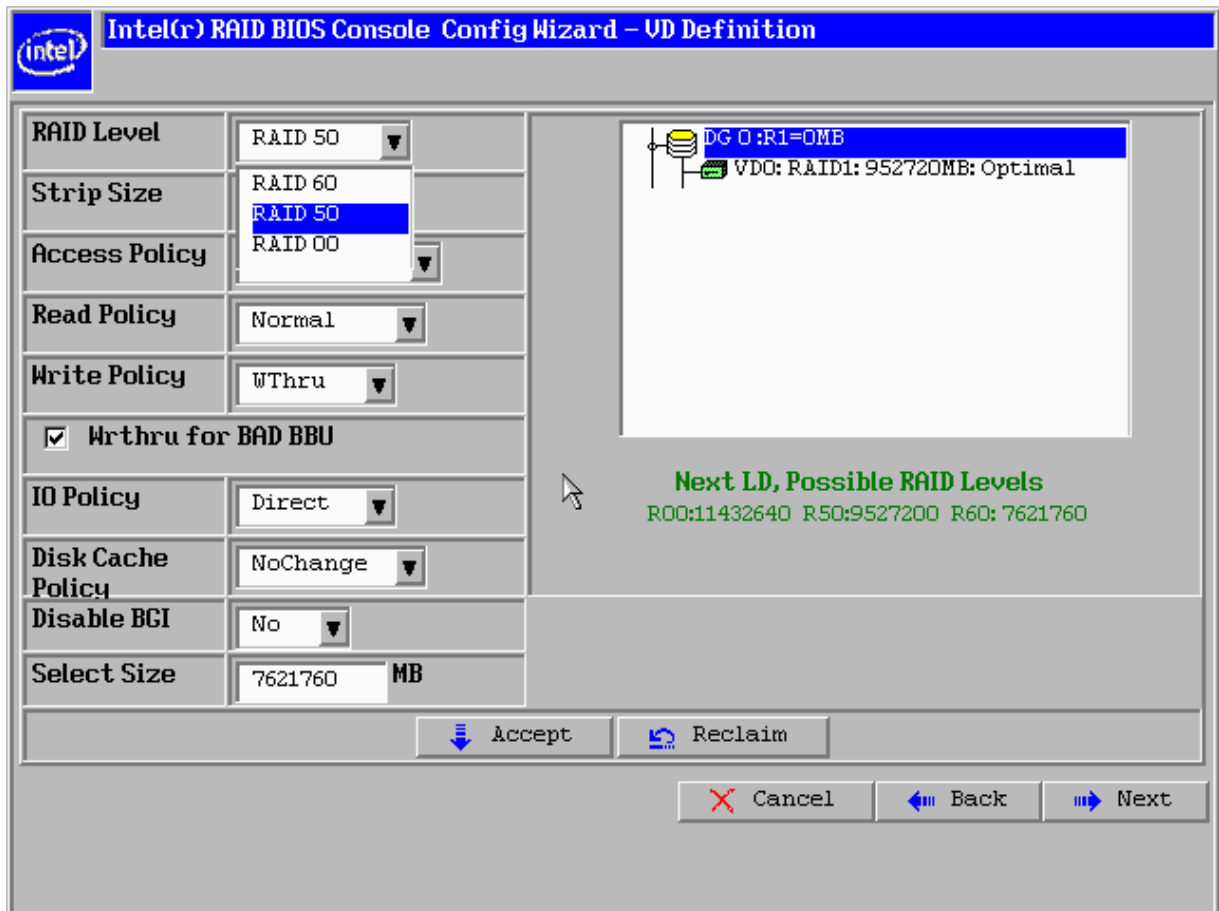
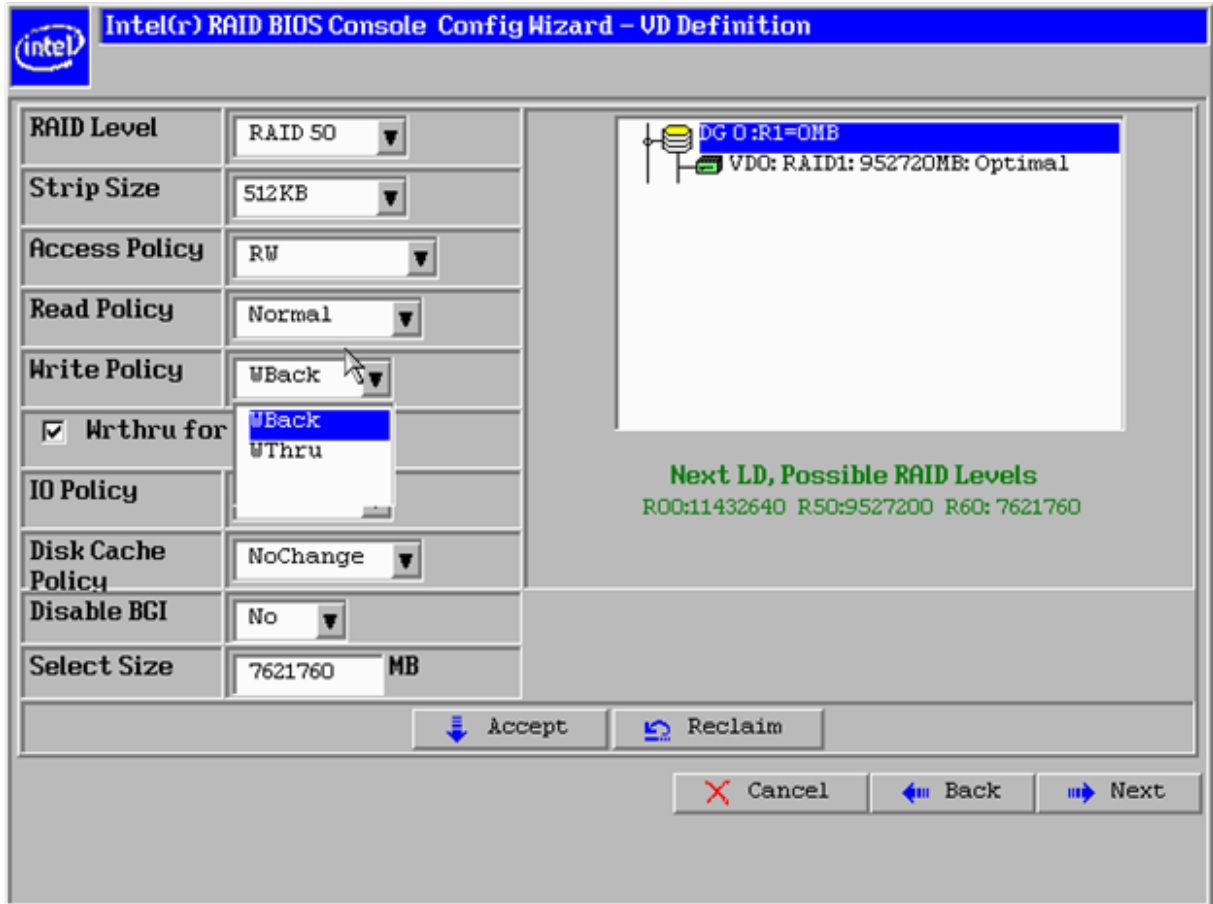
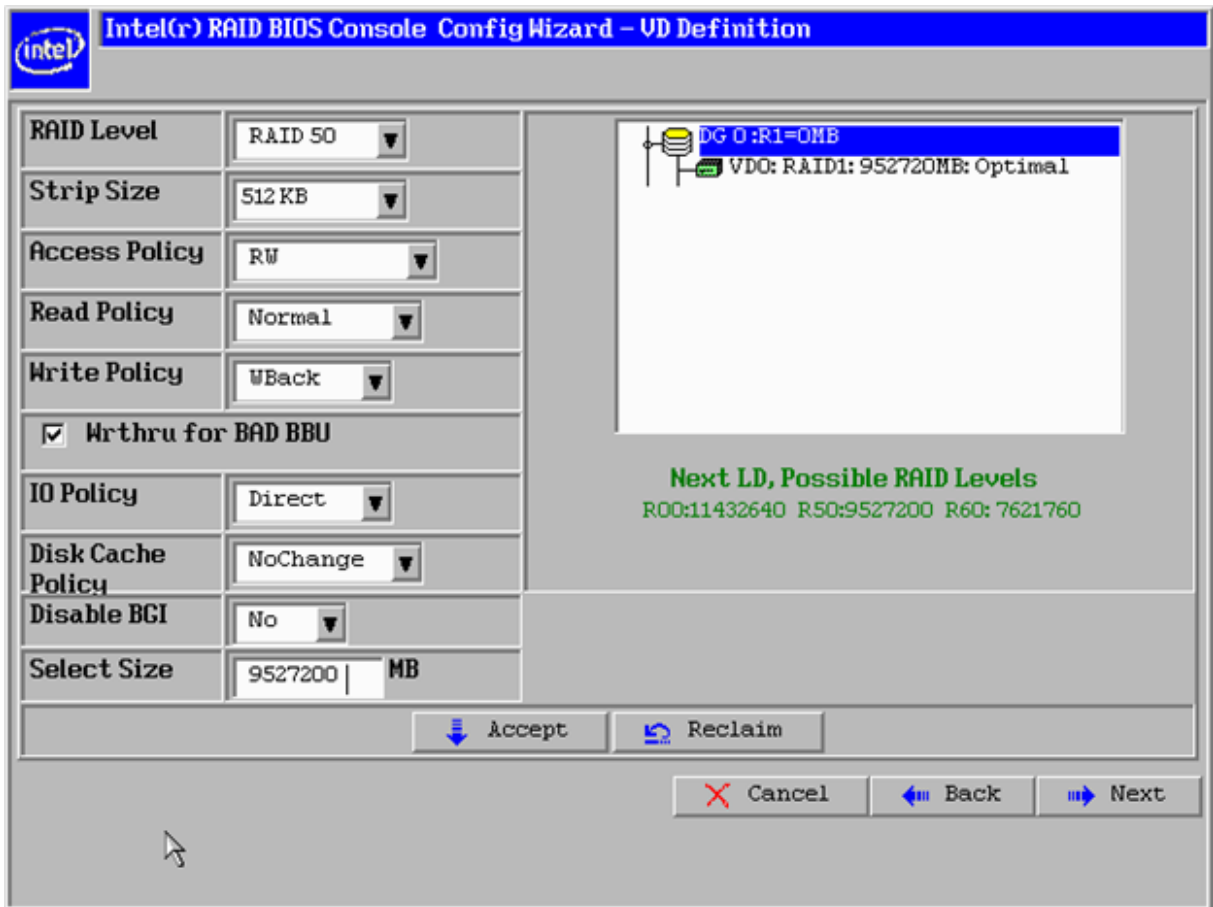

Figure 27. VD Definition Screen – Configuring RAID 50
Figure 28. VD Definition Screen – Configuring RAID 50 Write Policy
Figure 29. VD Definition Screen – Configuring RAID 50 Size
22. On the VD Definition screen, select **RAID50** for the RAID Level (see Figure 27), and select **512 KB** for Strip Size, **WBack** for the Write Policy (see Figure 28), and modify the Select Size value to **9527200 MB** (see Figure 29).